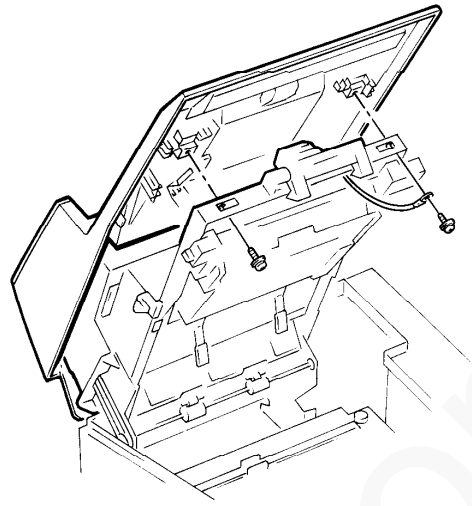

Figure 2. Top cover
4. Open the top cover and remove the two screws securing the top cover to the upper printer assembly (figure 2).